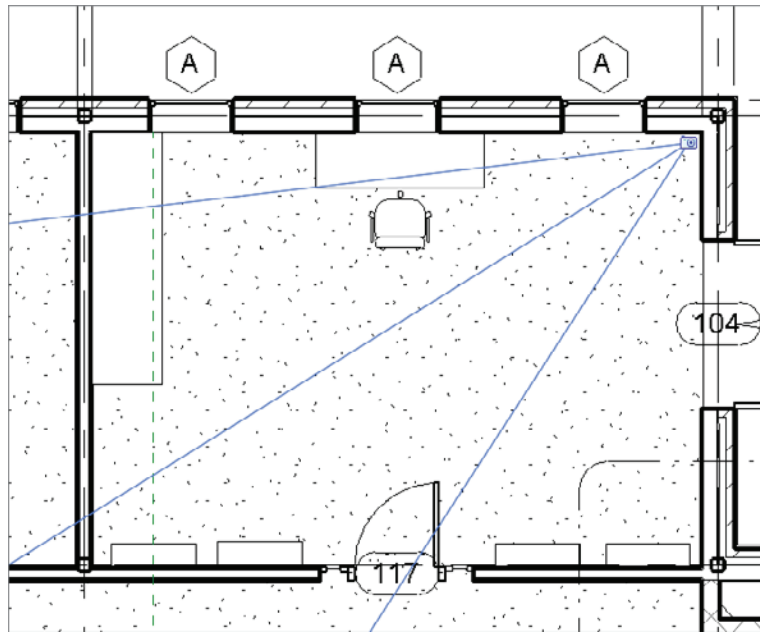

FIGURE 9.54 Adding a camera (perspective view) to the corner office
3. Pick a second point beyond the southwest corner, as shown in Figure 9.54. The new view opens. You will probably want to stretch the crop boundaries.